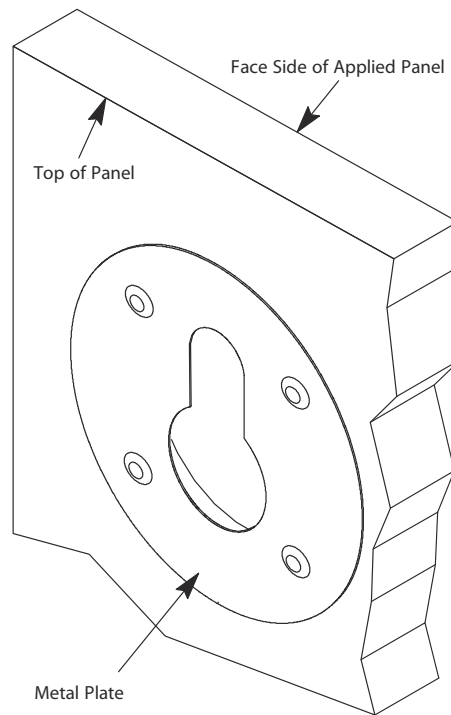

Figure 3 - Determine the Top of the Panel
12. Determine the top of the panel by rotating the panel until the small end of the key slot in the metal plate on the rear of the panel is pointing in the Up direction. See Figure 3 on page 10.